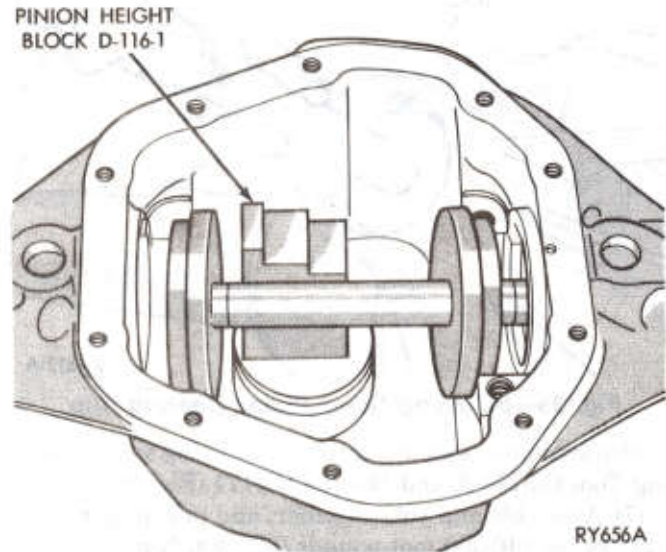

Fig. 33—Pinion Height Block Positioned Against Arbor
(3) Place pinion height block Tool D-116-1 on top of master pinion block and against arbor (Fig. 33).